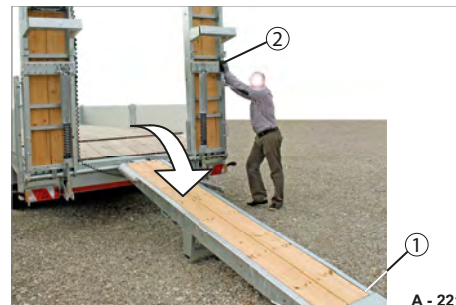

Fig. 74 Operating drive-up ramps
► Carefully lower the middle ramp (Fig. 74/1).
► Unlock the securing latch (Fig. 74/2) - see page 150.